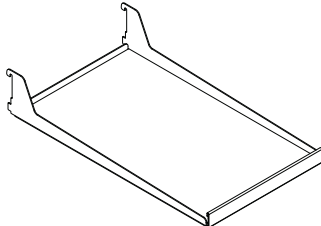

Figure 17
(2) frame and fl at glass shelf. (See Figure 17).
- 16. (1) half width fl at glass cantilever shelf. (See Figure 17).